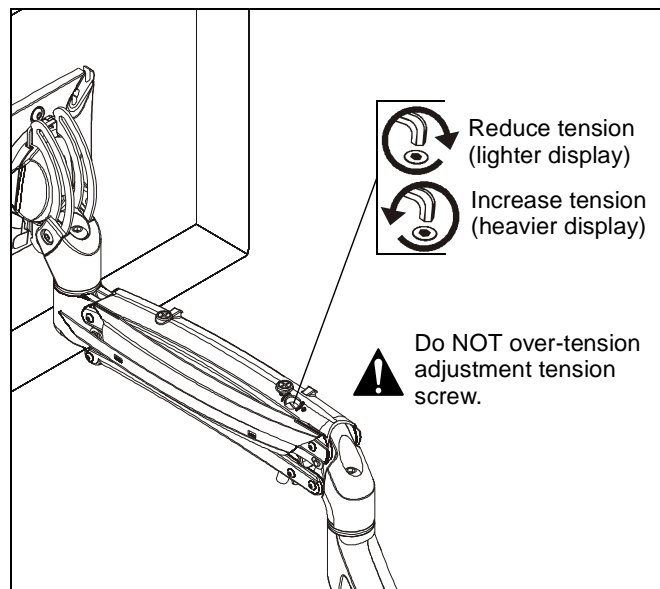

Figure 15
NOTE: Tension may also be adjusted with upper tension adjustment screw inside cable management cover and 1/8" hex key (N). (See Figure 15)